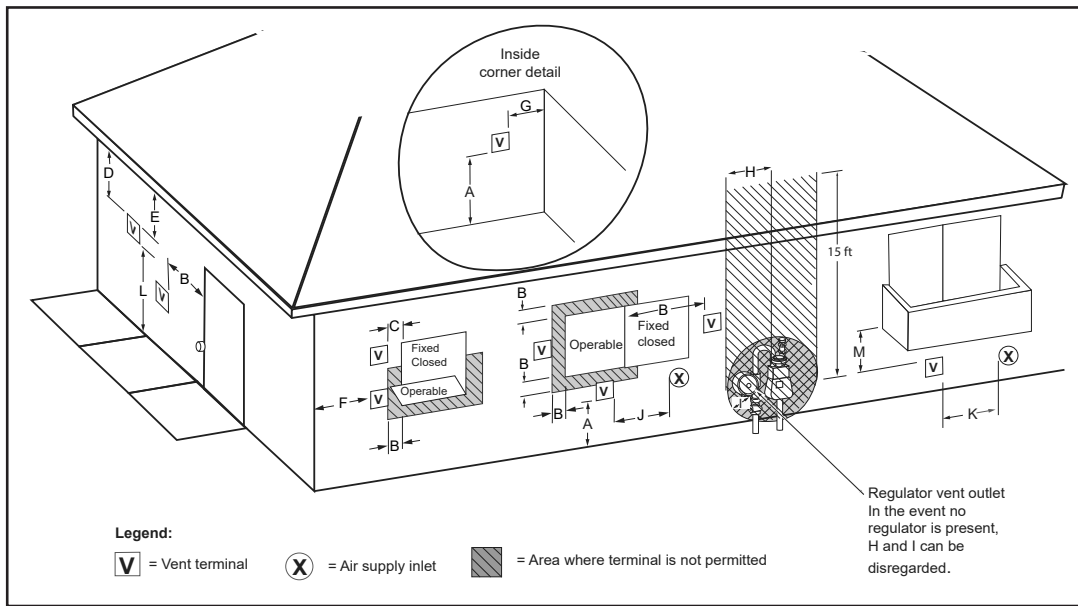

Figure 28. Sidewall Direct Vent Using Outside Air
3. If installing both intake air and vent piping in a Direct Vent configuration through a sidewall; ensure that all exterior sidewall clearance requirements for the terminations, shown in **Figure 28** (page 30), for the vent and intake air termination